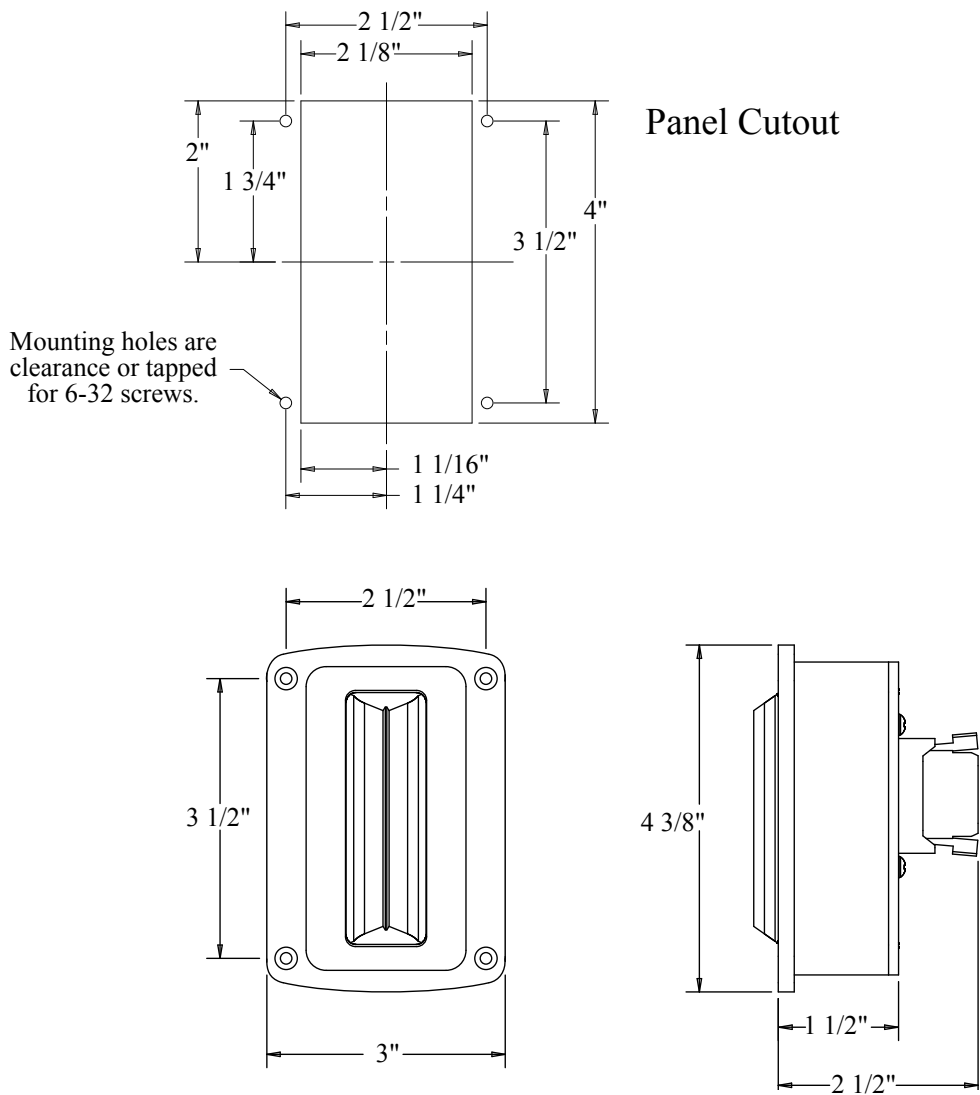

Figure 1. Display Module Mounting Dimensions
1. Measure and mark mounting location for display module panel cutout and mounting screw holes. Make sure there is clearance behind the panel for the display and cables before cutting holes. Refer to Figure 1 for layout and dimensions.
2. Cut out a 4 by 2 1/8-inch hole and drill four (4) holes (clearance or tapped) for 6-32 mounting screws.
3. Place display module in position and secure with four (4) screws.